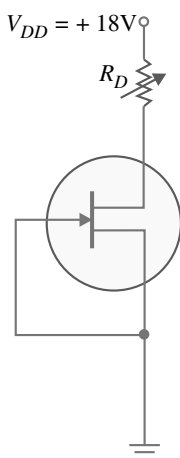

Fig. 17.35
**Example 17.23.** The shorted-gate  $n$ -channel JFET shown in Fig. 17.35 has pinch-off voltage  $V_P = 4V$  and  $I_{DSS} = 14mA$ . What is the maximum value of load resistance  $R_D$  for which the circuit can be used as a constant-current source?